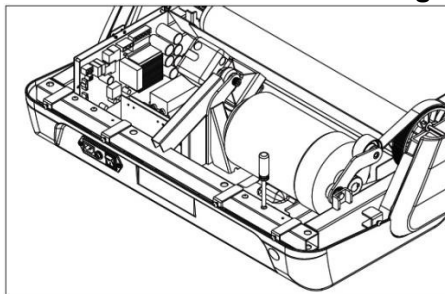

Figure 4.3.1
10) As shown in figure 4.3.1, use a screwdriver to remove the motor ground wire (green/yellow) and all wires which are connecting the motor and the control panel.